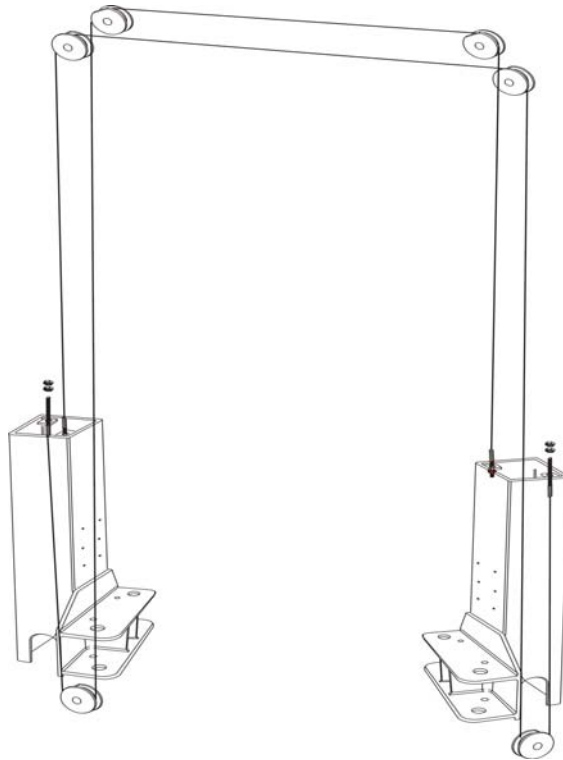

Fig.13a
- Raise the two carriages to the safety locking position, make sure the two carriages are of the same height from ground. for TLT235SC、TLT240SC、TLT235SC (U) models, route the steel cables as Fig. 13a